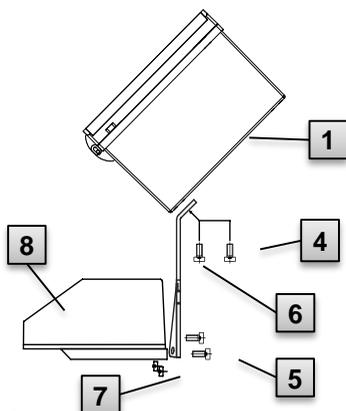

Fig. 6
- Using two M5 x 10 mm (Fig. 6: 4) cylinder screws, attach the mounting bracket (Fig. 6: 6) to the EK280 (Fig. 6: 1).
- Attach the mounting bracket using two square nuts M5 (Fig. 6: 7) and two M5 x 10 mm (Fig. 6: 5) cylinder screws at the back of the meter head (Fig. 6: 8).